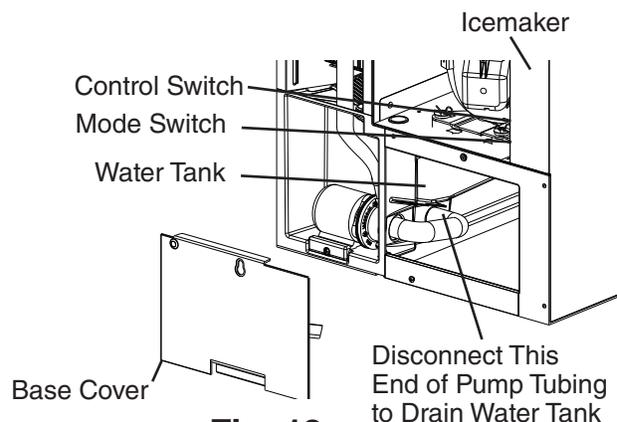

Fig. 19
- 3) Remove the base cover, then disconnect one end of the pump tubing to drain the water tank. See Fig. 19. After the water tank has drained, reconnect the pump tubing.